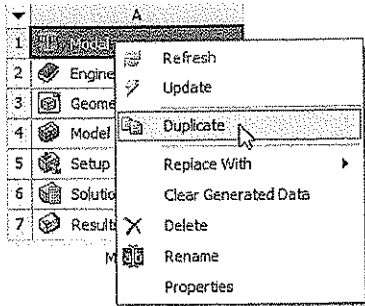
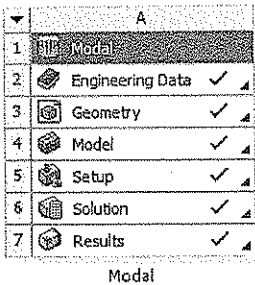

Figure 10-51 Choosing the **Duplicate** option from the shortcut menu
Figure 10-52 A copy of the **Modal** analysis system added in the **Project Schematic** window
2. Choose **Duplicate** from the shortcut menu, as shown in Figure 10-51; a copy of the **Modal** analysis system is added to the **Project Schematic** window, refer to Figure 10-52.
3. Rename the newly created analysis system to **Modal 2**, refer to Figure 10-52.